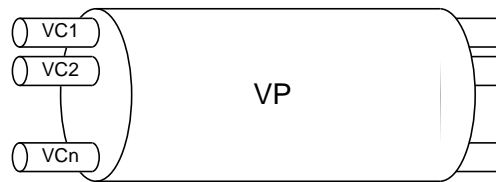

Figure 4: Virtual channels and virtual path
ATM circuits are of two types: virtual paths (VP) and virtual channels (VC). A virtual path is a bundle of virtual channels (Figure 4.).